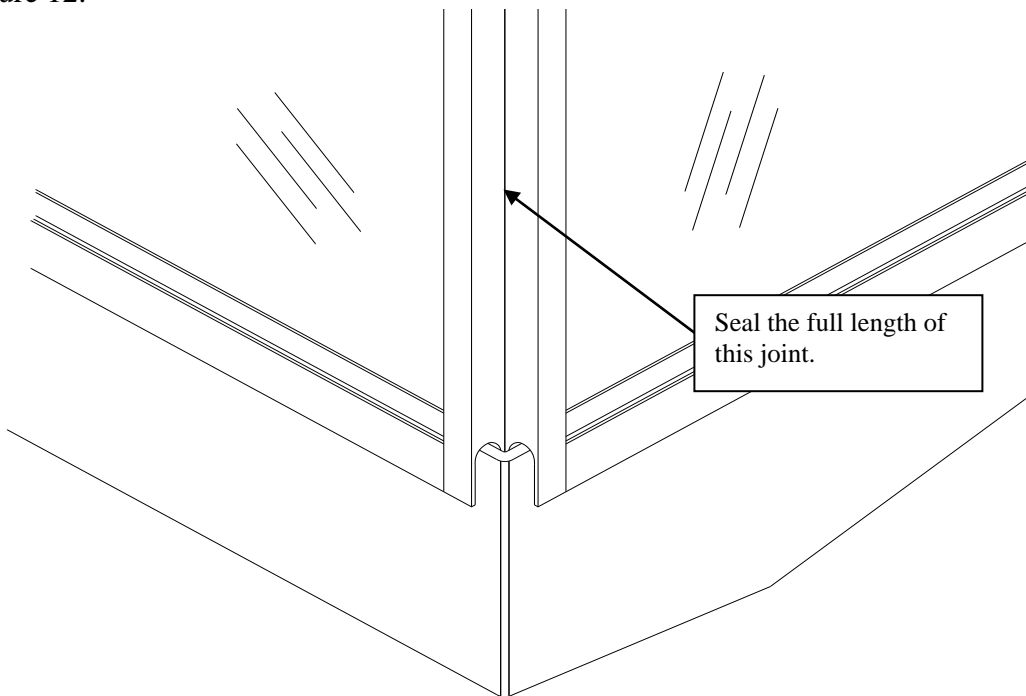

Figure 12.
3. From outside of the system, seal the joint where the back panels meet the division panels. See Figure 12.